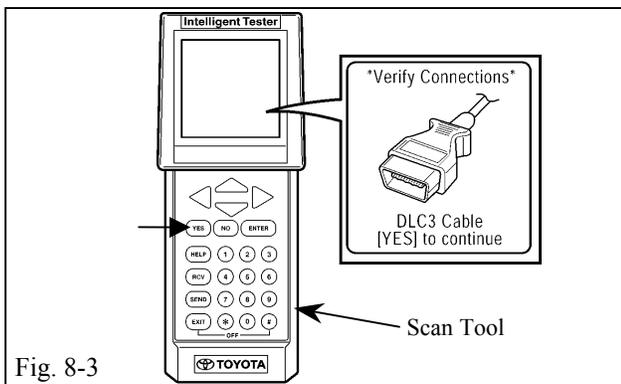

Fig. 8-3
- (e) Verify the connection of the DLC3 Cable. Press the "YES" button to continue. (Fig. 8-3)